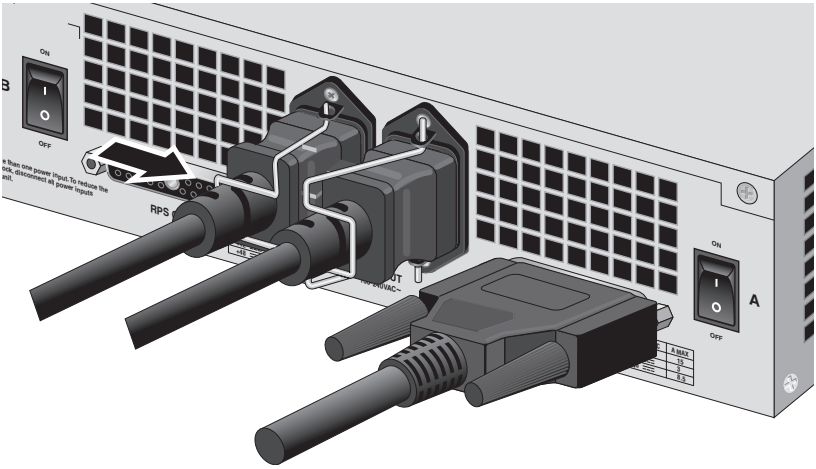

Figure 19. Securing the Power Cord with the Retaining Clip
- Slide over the retaining clip to secure the power cord (see Figure 19).